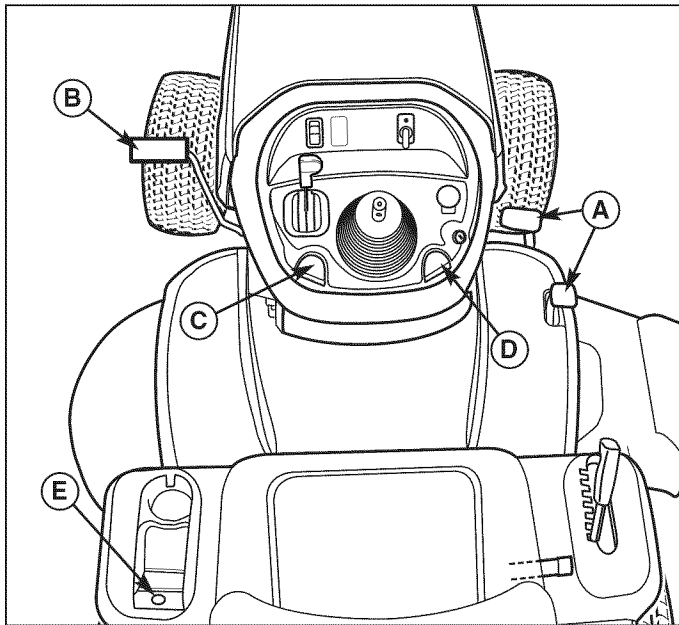

Figure 3. Engaging the Parking Brake
Applying the Parking Brake - See Figure 3. To lock the parking brake, release the ground speed pedals (A), fully depress the brake pedal (B), pull UP on the parking brake knob (C), and then release brake pedal.
Releasing the Parking Brake - See Figure 3. To release the parking brake, depress the brake pedal (B).
1. Pull up on the cruise control knob (D, Figure 3).
2. Depress the forward ground speed pedal (A).
3. Lift up the cruise control knob (D) when desired speed is reached. The cruise control will lock in one of its six locking positions.
1. Depress the brake pedal (B, Figure 3).